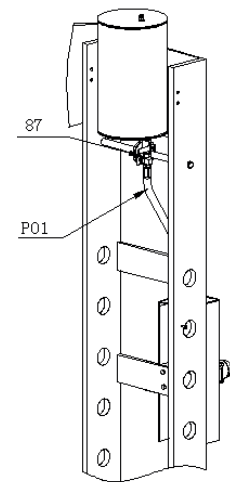

fig.7
4. Assembling Oil Hose(P1) to the Valve(87) (Avoid the O-ring fall down from Valve(87) refer fig 7